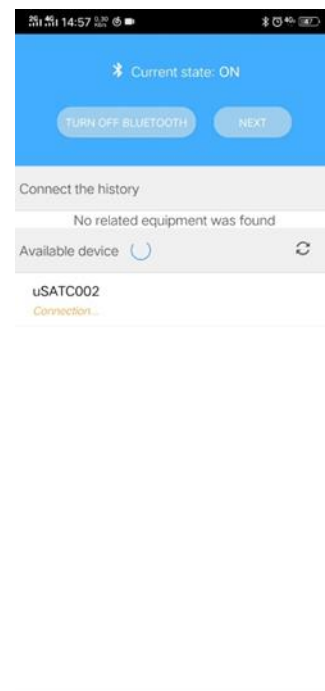

Figure 7-6
4. Click on the refresh icon  behind the title "Available device". Search for new Bluetooth devices (uSATxxxx, xxxx is numbers), then click the Bluetooth device name you want to connect, at this point, the APP needs to be authorized by the Terminal, as shown in Figure 7-6, when the Terminal receives the request information of Bluetooth, the buzzer will give sound prompt at the frequency of 1 second (30 seconds will timeout), and only sound prompt will be given on other pages (such as GPS search page). You need to click the touch button on the OLED display screen of the Terminal (as shown in Figure 7-8).